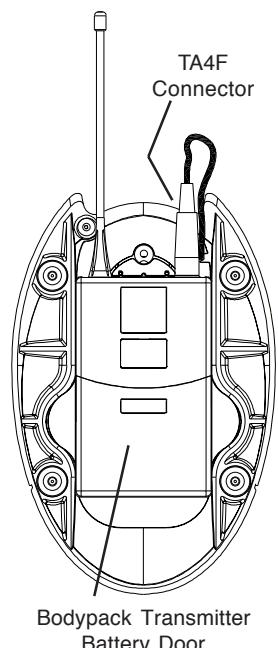

Figure 4: Bottom View
- 4) Carefully insert TA4F connector into bodypack (see figure 4).
- 6) Test mic in actual use situation, and set audio gain on bodypack transmitter for optimal gain through wireless system. Note: battery door may be opened to access gain adjustment in bodypack, without removing bodypack from base (see figure 4).